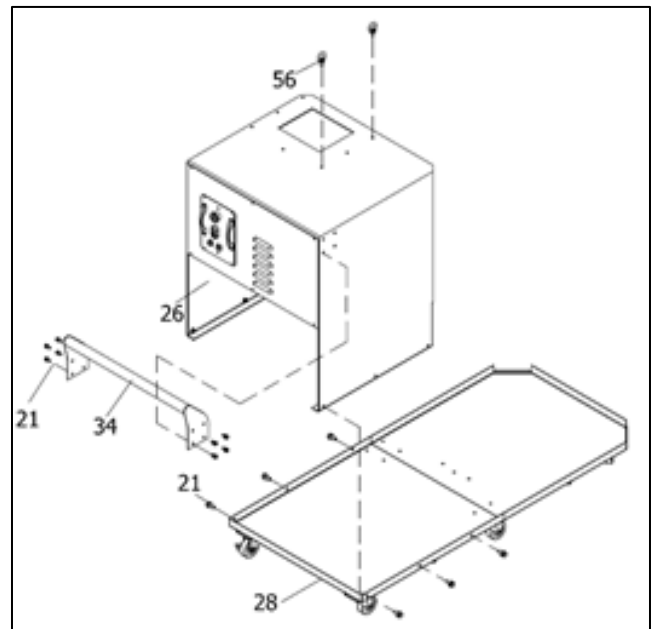

Figure 8-2: Setup Installation Cont'd
5. Assemble the Handle (NO. 34) onto the Main Housing (NO. 26) and tighten with Flange Bolts (NO. 21) Tighten with the supplied wrench .See Figure 8-2